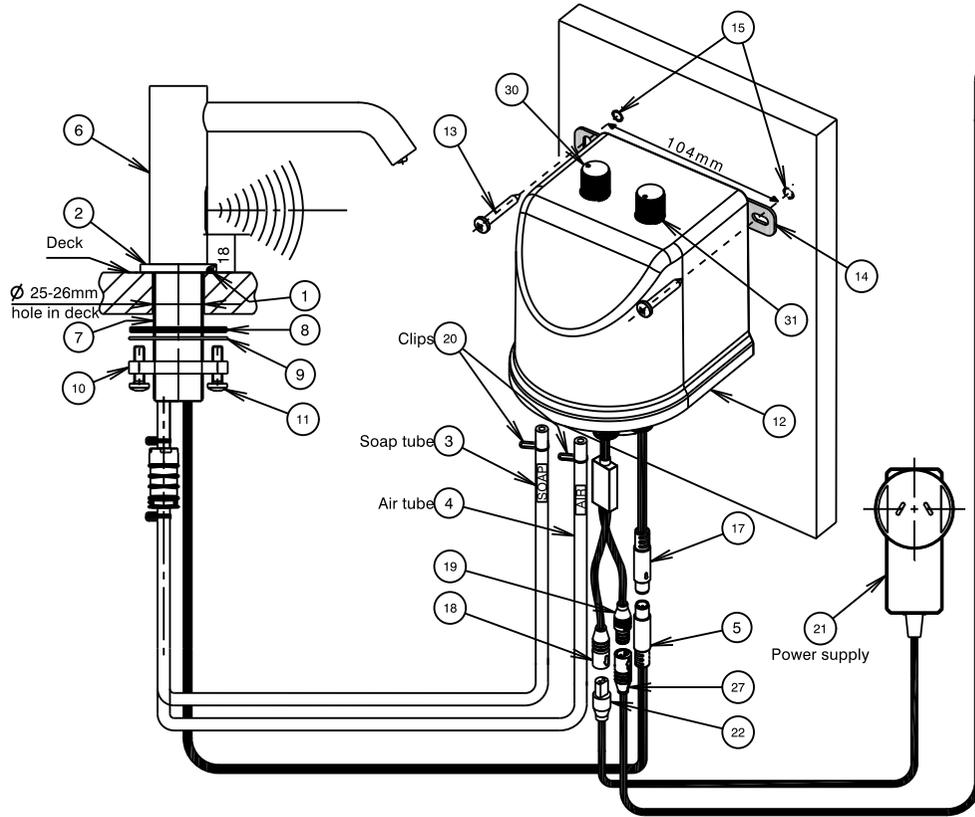
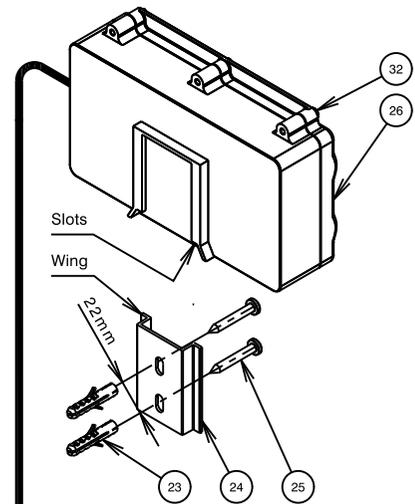

Fig. 2 - Sensor unit installation
Fig. 6 - Battery box installation
- 1) Ensure 'O'ring (1) is fitted into groove in base ring (2).
- 2) Insert the soap tube (3), air tube (4) and sensor cable (5) through the hole of base ring (2). Pass base ring (2) through threaded tube (7) until the base ring (2) sits against bottom of sensor body (6).
- 3) Insert soap tube (3), air tube (4) and sensor cable (5) through the hole in the deck. Insert threaded tube (7) into deck hole, orientate sensor body as required. From under the deck, insert soap tube (3), air tube (4) and sensor cable (5) through flat seal (8), washer (9) and clamp ring (10) in order, then fit flat seal (8) followed by washer (9) over threaded tube (7) as shown in Fig. 2. Screw clamp ring (10) onto threaded tube (7) until it contacts washer (9) & the flat seal (8) has contacted the underside of the deck. Tighten two screws (11) equally until sensor assembly is clamped firmly to the deck. DO NOT OVERTIGHTEN.
- i) Drill two $\varnothing 6$ mm holes, 40mm deep and 104mm apart horizontally as shown in Fig. 2.
- ii) Insert small end of wall plugs (15) into drilled holes and tap until flush with wall/tile face.
- iii) Align the slots on fixing plate (14) with the holes on the wall, pass the screws (13) through the slots and insert into the wall plugs (15). Then tighten the screws. DO NOT OVERTIGHTEN.
- i) Drill two holes at 104mm apart horizontally to suit the self tapping screws supplied as shown in Fig. 2.
- ii) Align the slots on fixing plate (14) with the holes on the wall, pass the screws (13) through the slots and insert into the holes in the stud. Then tighten the screws. DO NOT OVERTIGHTEN.
- i) Drill two $\varnothing 6$ mm holes, 40mm deep and 22mm apart vertically as shown in Fig. 6.
- ii) Insert small end of wall plugs (23) into drilled holes and tap until flush with wall/tile face.
- iii) Align the slots on bracket (24) with the holes on the wall, pass the screws (25) through the slots and insert into the wall plugs (23). Then tighten the screws DO NOT OVERTIGHTEN.
- iv) Mount the battery box (26) onto wings of bracket (24).
- i) Drill two holes at 22mm apart vertically to suit the self tapping screws supplied as shown in Fig. 6.
- ii) Align the slots on bracket (24) with the holes on the wall, pass the screws (25) through the slots and insert into the holes in the stud. Then tighten the screws. DO NOT OVERTIGHTEN.
- iii) Mount the battery box (26) onto wings of bracket (24).
a) Soap tube and air tube connections, (Fig. 2 & Fig. 5):
b) Sensor cable connection, (Fig.2):
By aligning the profile of connectors (5) & (17), connect the sensor cable (5) from the outlet to the end of sensor cable (17) of soap control unit as shown in Fig. 2.
While aligning the 'D' profile of male and female connectors Connect male connector of power cable (22) to female connector (18) of soap control unit (12) as shown in Fig. 2. Connect male connector (19) from control unit (12) to female connector (27) of battery box (26). Ensure all cable connectors are pushed in fully.
7) Adding/Replacing batteries, (Fig. 6)